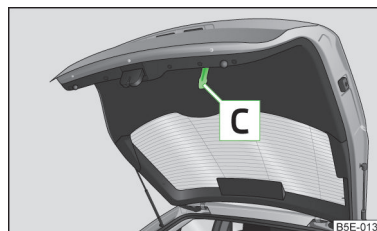

Fig. 20
► Pull the lid down the handle  » Fig. 20 and close with a slight swing.